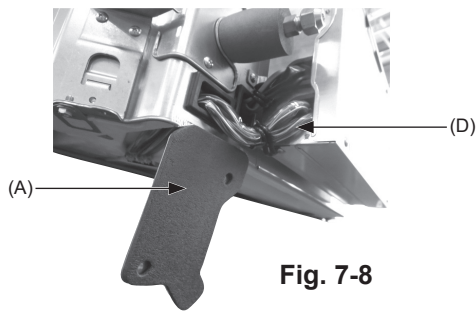

Fig. 7-8
- (1) Remove the two screws securing the wire cover of the main unit, and then open the cover.
- (2) Route the wires of the i-see Sensor and signal receiver through the wire inlets in the electric component box as shown in the diagram and around the bushings on the side of the main unit. (Fig. 7-8)